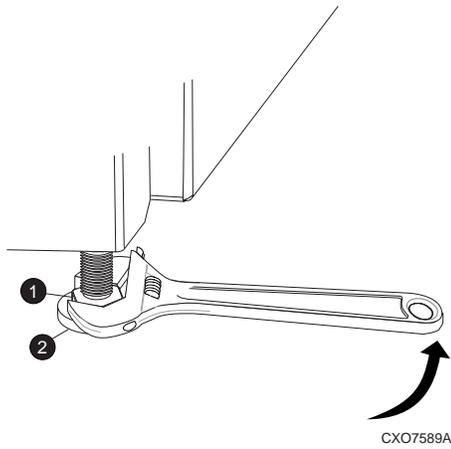

Figure 29 Raising a leveler foot
1. Raise one foot by turning the leveler foot hex nut counterclockwise until the weight of the rack is fully on the caster (see Figure 29).